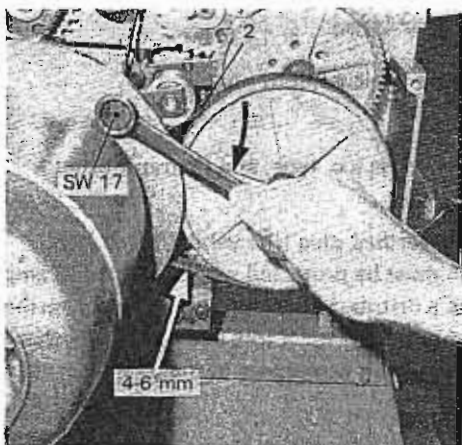

Fig. 5
7. The tensioning pulley which has already been mounted, is now turned down as shown in Fig. 5, so that the flat belt on the opposite side cannot be raised more than 6 mm (approx. 1/4 in.). But on no account must the tensioning roll rest on the belt pulley (Fig.5, No. 2).